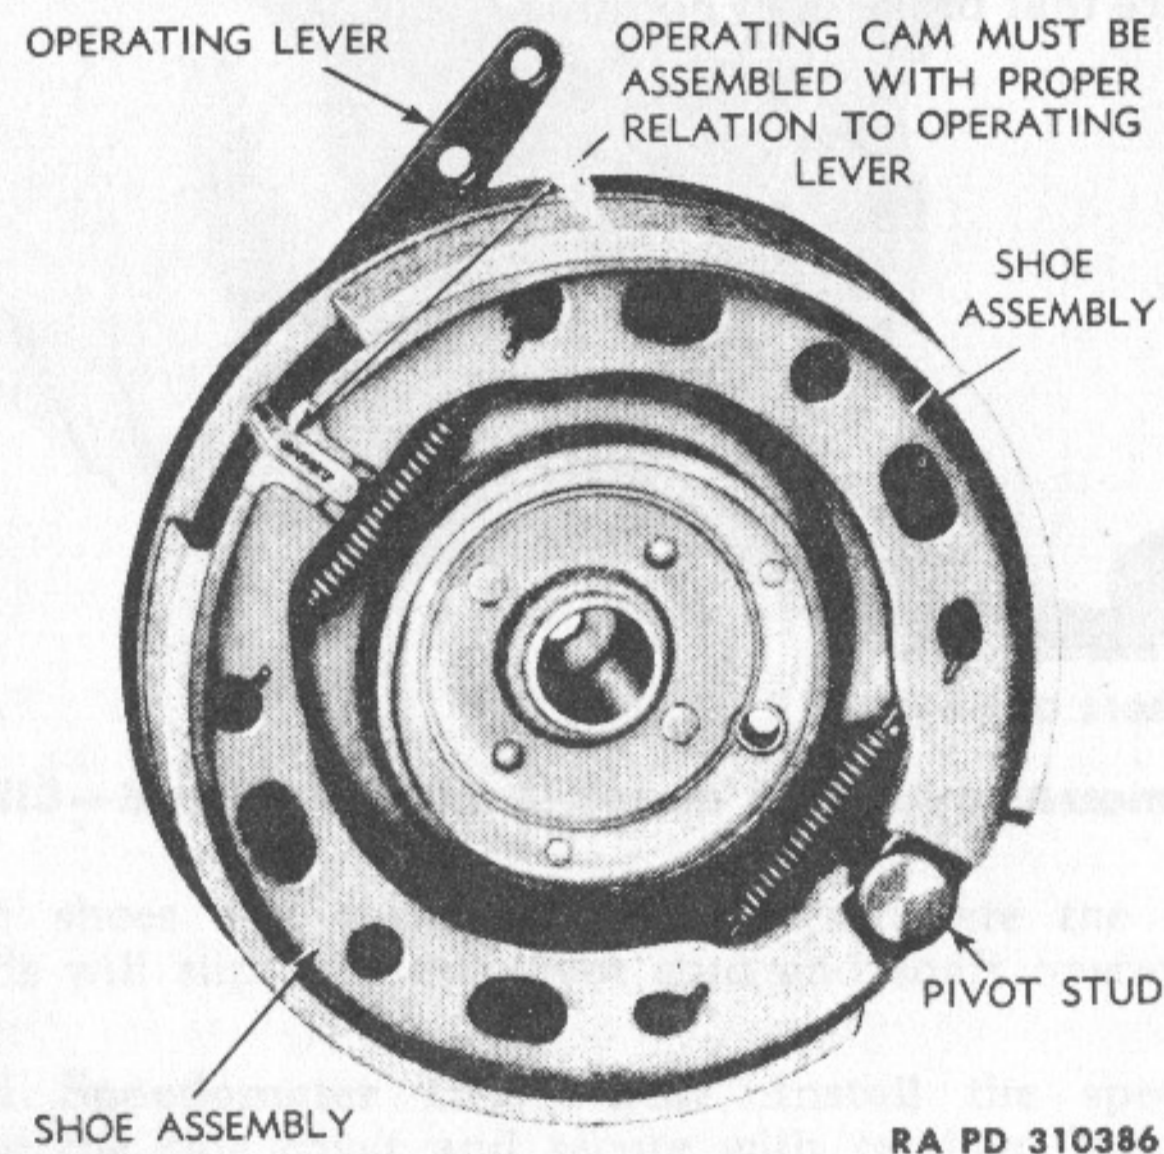

Figure 114—Front Wheel Brake Side Cover and Shoe Assembly (Inside)
98. DESCRIPTION (figs. 114 and 115).
a. **Install Operating Cam and Pivot Stud.** Install the operating cam with the arrow (on end of cam) pointing outward, and with brake lever at right angles to cam (fig. 114). Install the pivot stud, pivot stud plate (serrated side next to side cover), washer and nut.